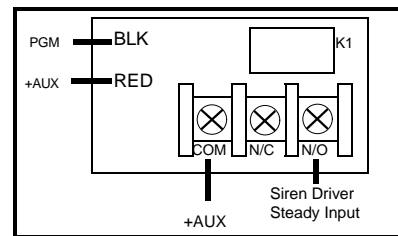

FIGURE 6 KEYFOB/KEYSWITCH CHIRP
(1) Audio Verification - Program to activate the PGM during reporting. Select specific zones for audio verification by programming the required zones in *PGM Output* [08], *PGM Features 2* [24] and *PGM Features 3* [25]. Connect the PGM to the Veriphone™ trigger low input.
(2) Access Output - Activates the PGM output for 5 seconds using the A \bigcirc command.
(3) Follow Keypad Sounder - The following keypad sounds will activate the PGM output: Entry Sounder, Keypad Pulsing Sounder, Keypad Output on Alarm, Chime, Fault Find.
(4) Keyfob/Keyswitch Chirp - Program to chirp the PGM Output (1) one time when the panel is armed or (2) two times when the panel is disarmed. Wire as shown in Figure 6.